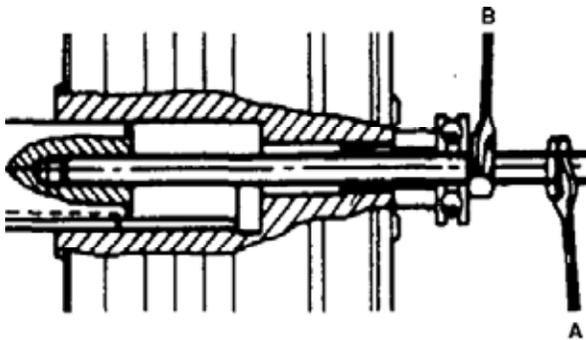

Fig. 1
Using the threaded bar as shown on Fig. 1, and using two wrenches (hold wrench "A" and turn wrench "B" to draw the coupling on to the motor shaft). **For a good mounting, make sure shafts are clean and without burrs, and lubricate the mating surfaces with oil or antiseizing grease.** Note: In case of hot mounting (not recommended), do not reach a temperature above 195°F, or higher, which causes irreparable damages to oil seals.
2. Fit fluid coupling on motor shaft by using a threaded bar as shown on Fig. 1, Section 2 and using two wrenches (hold wrench "A" and turn wrench "B" to draw the coupling on the motor shaft).